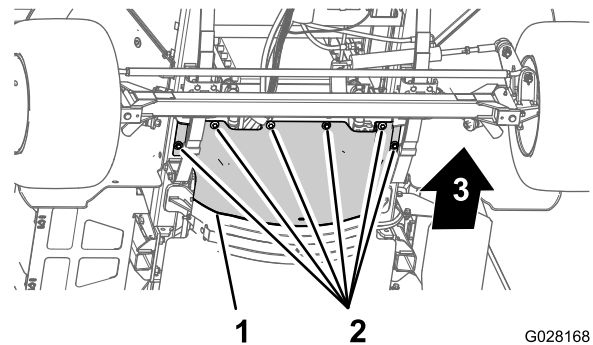

Figure 66
3. Remove the 6 hex-head bolts and 6 washers that secure the front, forward heat shield to the chassis and remove the shield (Figure 66).